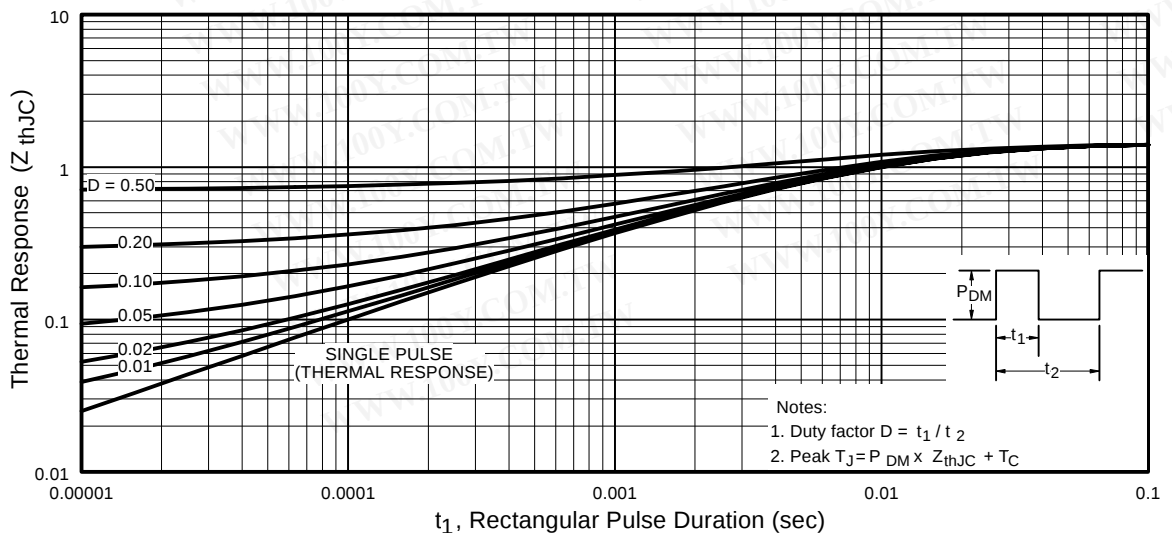

Fig 11. Maximum Effective Transient Thermal Impedance, Junction-to-Case
- ① Repetitive rating; pulse width limited by max. junction temperature. (See fig. 11)
- ② $V_{DD} = 15V$, starting $T_J = 25^\circ\text{C}$, $L = 300\mu H$